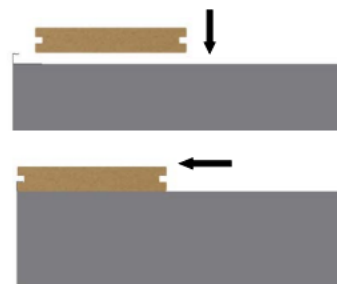

Figure 3
- 3) Insert the edge Decking board into Clips Slot. (Figure 3)